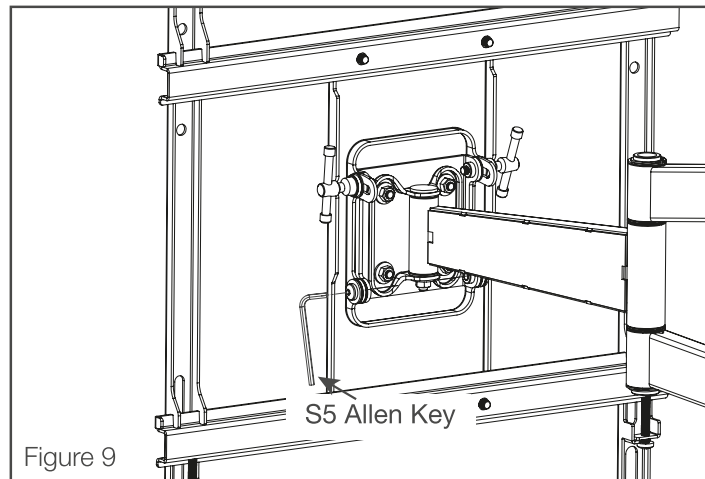

Figure 9
1. Loosen the tilt adjusting T bar and screws (using the S5 Allen Key) on each side of the Wall Mount to adjust your TV to the desired viewing angle (see Figure 9). Once the desired position has been reached re-tighten the T bar and screws to lock the bracket into position.